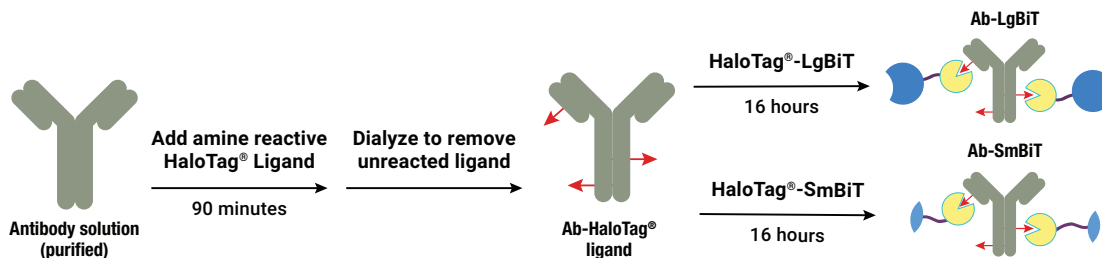

Figure 2. Schematic of antibody labeling with HaloTag®-LgBiT or HaloTag®-SmBiT. A similar approach can be used to label other proteins.
HaloTag® technology is used to label antibodies with SmBiT and LgBiT (3). HaloTag® is a fusion protein that covalently binds its ligand (HaloTag® Ligand) under physiological conditions and has been used in a variety of applications, including antibody labeling (3). Labeling is a two-step process (Figure 2) in which amine reactive HaloTag® Succinimidyl Ester (O4) ligand (509Da) reacts with primary amines of lysine amino acids on the antibodies. For this reaction, antibodies should be in an amine-free buffer without any protein preservative. Antibodies labeled with HaloTag® Ligand are then incubated with HaloTag®-LgBiT (50kDa) or HaloTag®-SmBiT (31kDa) fusion protein to make a covalent conjugate of antibody-HaloTag®-LgBiT or antibody-HaloTag®-SmBiT.